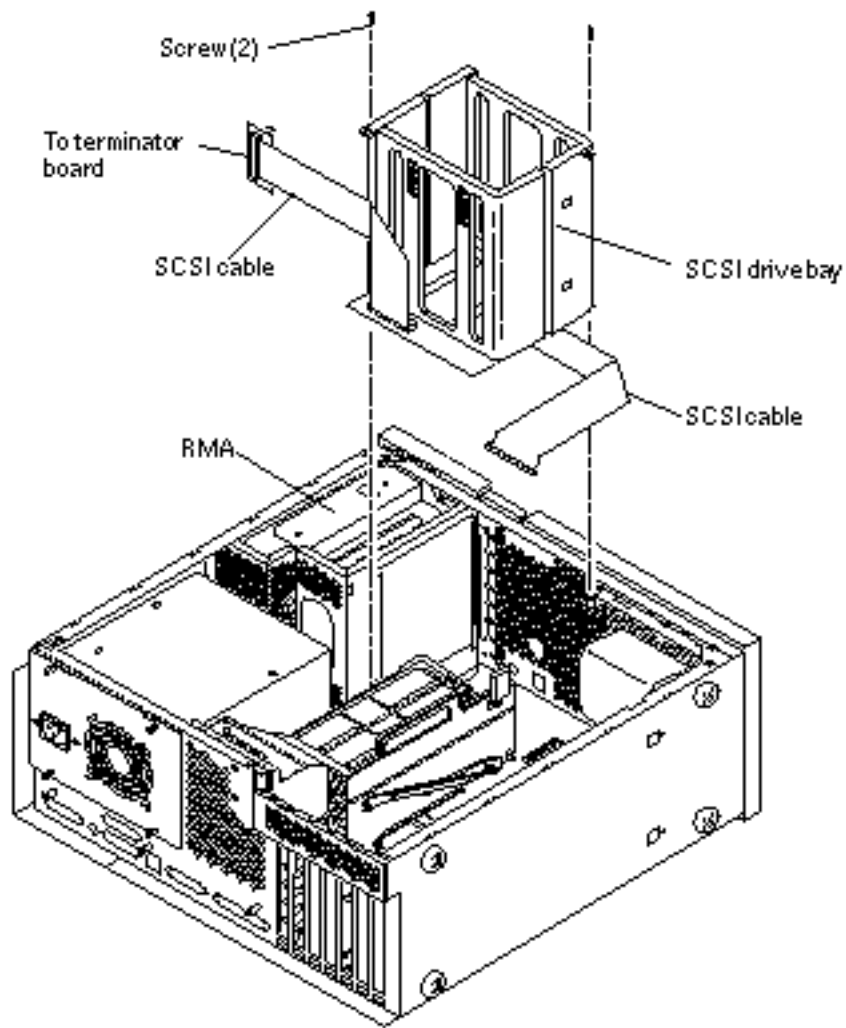

Figure 1-9 Removing and Replacing the SCSI Drive Bay
8. Remove the SCSI drive bay (Figure 1-9):
5. Replace the SCSI drive bay (Figure 1-9):